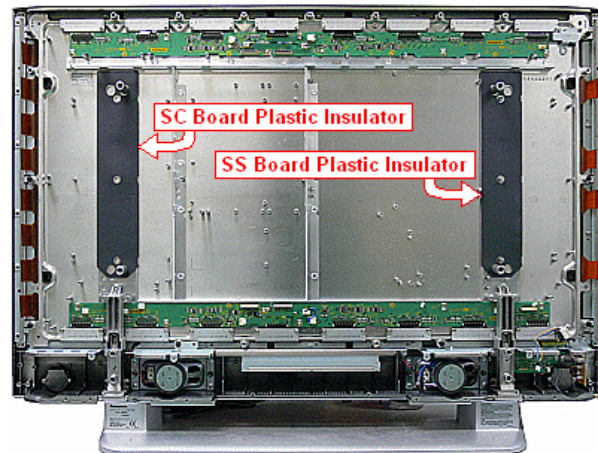

Figure 19. Rubber Insulator
6. Remove the rubber insulator located underneath the SS board and transfer it to the new panel. (See figure 19.)